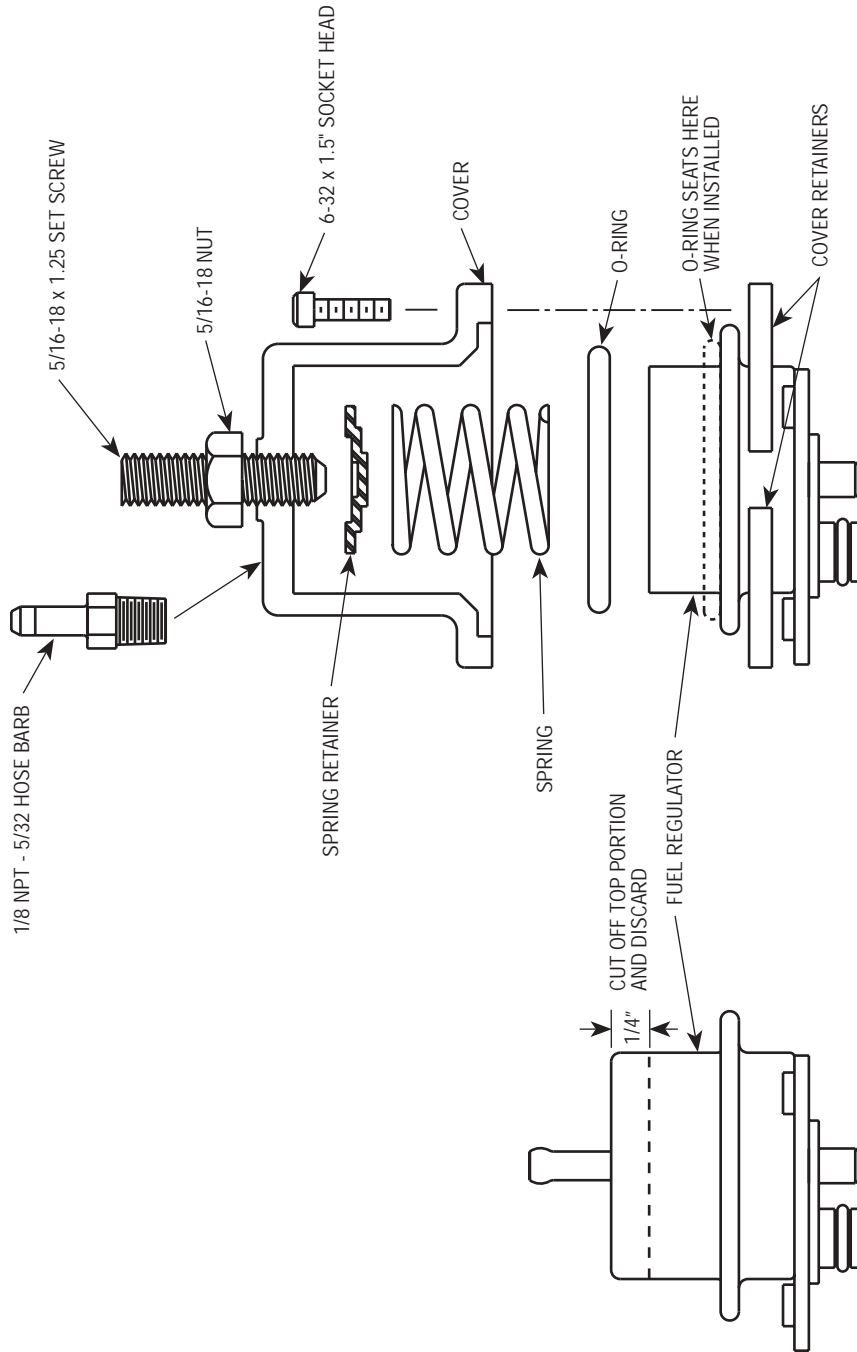

Fig. 1
4. Install the O-ring onto the factory fuel regulator and seat onto the lip. Install the Vortech[®] fuel optimizer as shown in Fig. 1. The adjustment screw should be unscrewed as far as possible to ease installation. Using a 7/64" hex key, tighten the four supplied 6-32 x 1/2" stainless steel screws evenly, using a criss-cross pattern. *There is no need to tighten screws excessively.* A small amount of blue loctite 247 is recommended on each of the four previously mentioned screws.